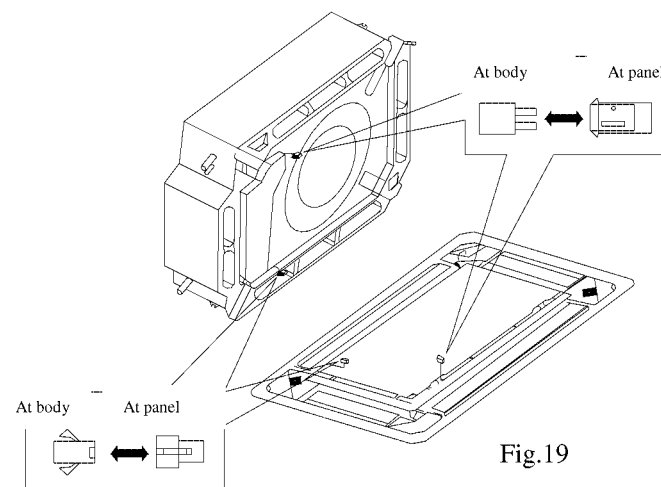

Fig.19
3. Wiring of the decoration panel (Fig.19)